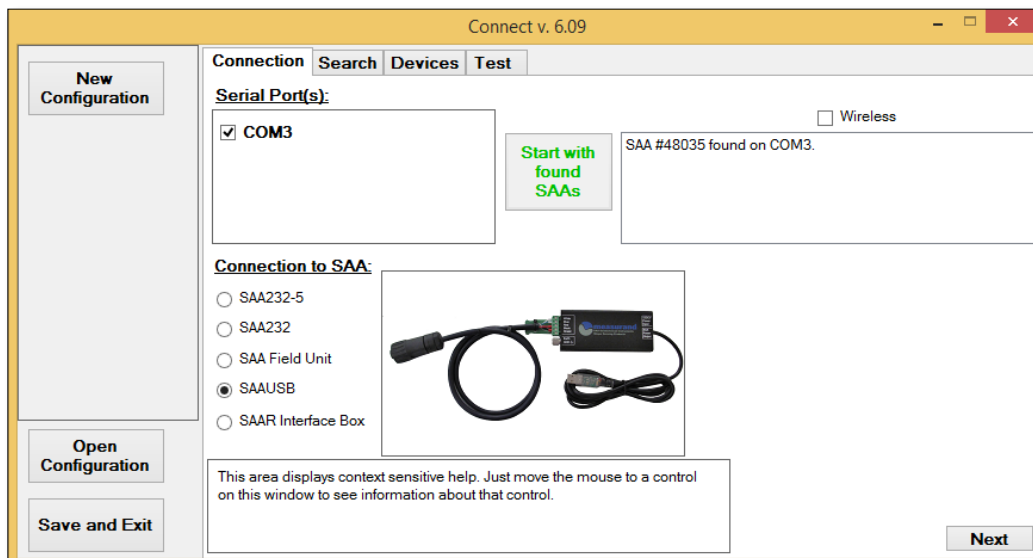

Figure 6.12: SAARecorder 'Connection' window with the SAAUSB selected.
4. Click the 'SAAUSB' choice under the 'Connection' tab, the window should appear as it is in **Figure 6.12**.